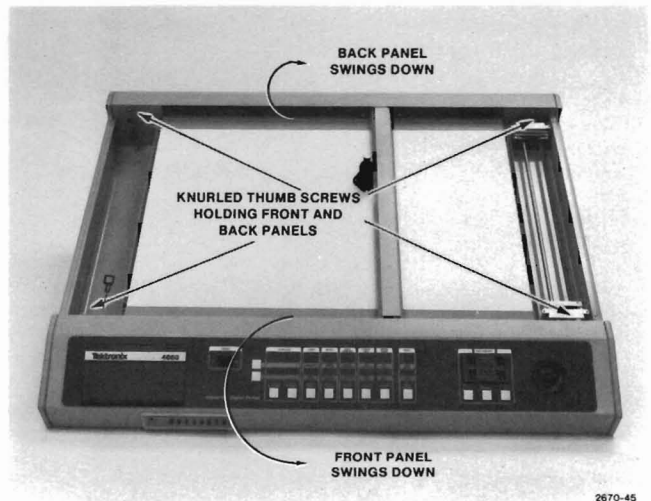

Figure C-2. Front and Back Panel Thumbscrew Locations.
3. When both end panels have been lowered, the front and back panels can be lowered on their hinges. To do this, unscrew each of the four knurled thumbscrews that hold the front and back panels in place. These screws are located near the top corners of the instrument and face in toward the instrument's center (see Figure C-2).